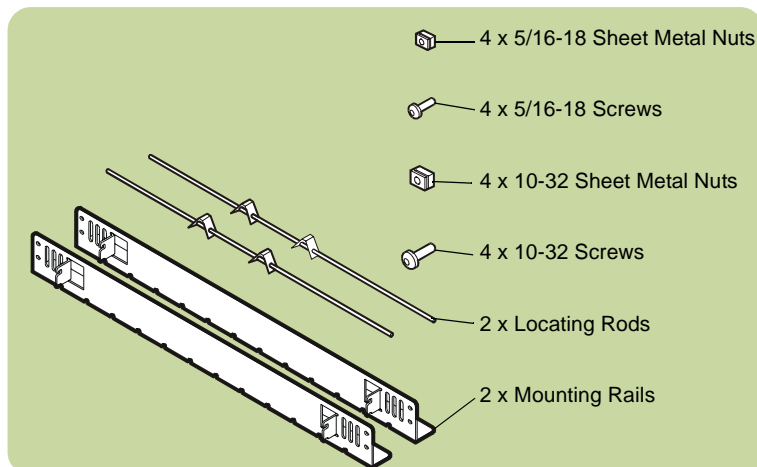

Fig. 29. Compaq 9000 Rail Kit Contents
1. Check the rail kit contents (see Fig. 29). If any parts are missing, call your nearest HP sales office.